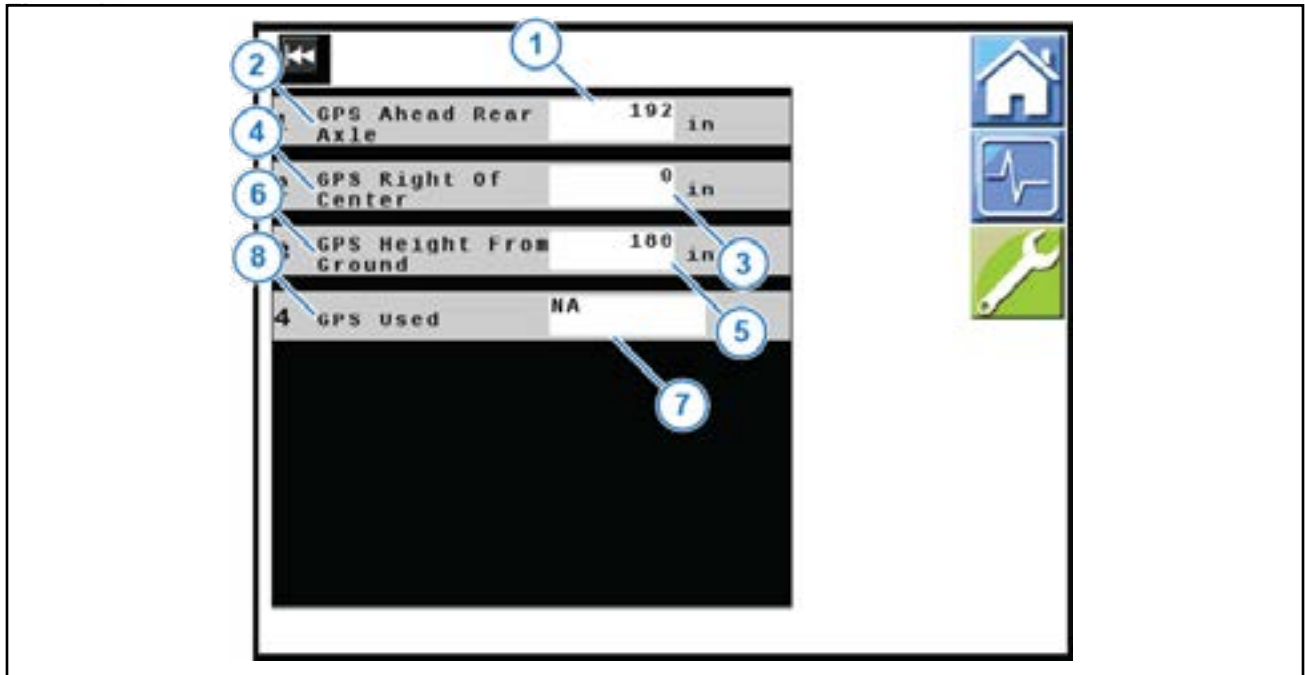

Figure 26: GPS Settings
13. Select the box (Figure 26, Item 1) next to GPS Ahead Rear Axle (Figure 26, Item 2).
15. Select the box (Figure 26, Item 3) next to GPS Right of Center (Figure 26, Item 4).
17. Select the box (Figure 26, Item 5) next to GPS Height From Ground (Figure 26, Item 6).
19. Select the box (Figure 26, Item 7) next to GPS Used (Figure 26, Item 8).